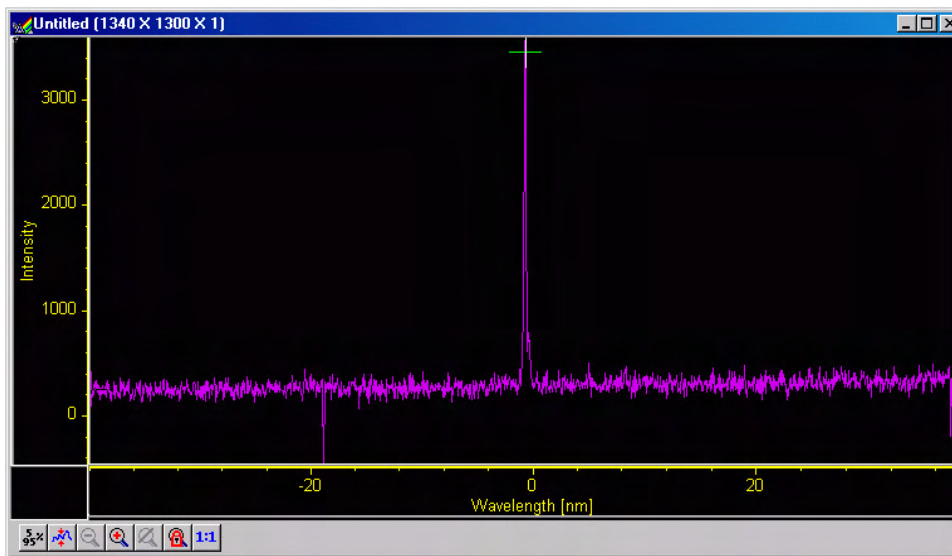

Figure 74. Offset Spectrum for Zero-order Measurement
5. Figure 74 illustrates a typical Offset data acquisition. The reference peak should appear near the center of the display and the cursor should be near or on the highest point of the peak. If the peak is saturated, cancel, lower the exposure time, and repeat the operation. The display X-axis should be calibrated (any units other than pixels). *If the X-axis is calibrated in pixels, select the desired units as the calibration units on the Usage dialog box (opened by selecting Usage from the Calibration menu).*